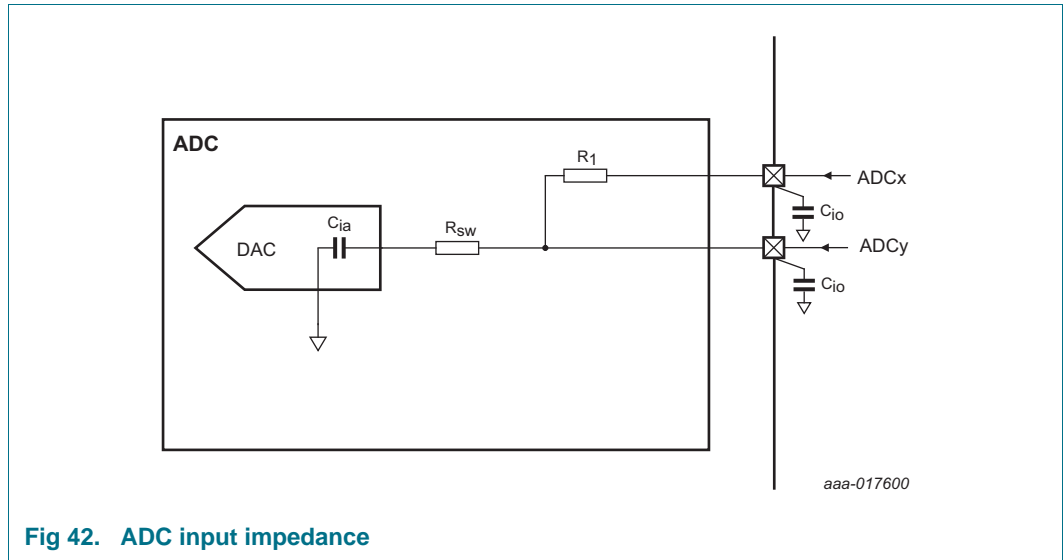

Fig 42. ADC input impedance
- [10] Input impedance  $Z_i$  is inversely proportional to the sampling frequency and the total input capacity including  $C_{ia}$  and  $C_{io}$ :  $Z_i \propto 1 / (f_s \times C_i)$ . See Table 20 for  $C_{io}$ . See Figure 42.
- (1) Example of an actual transfer curve.
- (2) The ideal transfer curve.
- (3) Differential linearity error ( $E_D$ ).
- (4) Integral non-linearity ( $E_{L(adj)}$ ).
- (5) Center of a step of the actual transfer curve.
Figure 42 shows the ADC input impedance. In this figure: